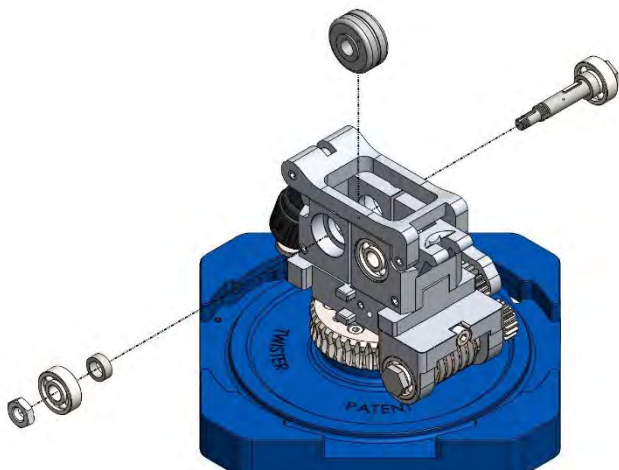

Figure 51
5. Extract the shaft longitudinally, possibly leaving the bearing, the spacer and the locking Tab in the appropriate seats. If not, reposition the elements on the shaft as shown in the figure. Once this operation has been carried out, remove the contact wheel. Figures 51 and 52;